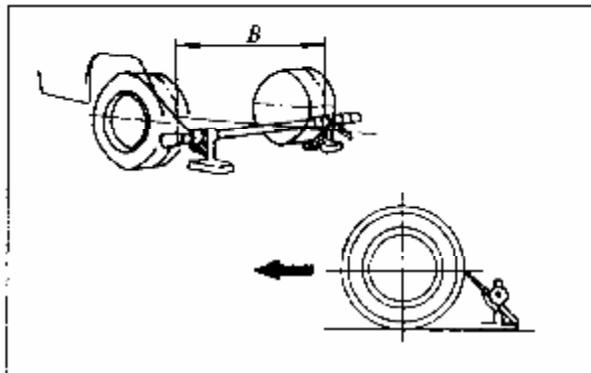

Figure 10-5-8 Check Toe-in (1)
3. Turn ends of left and right steering tie-rods to adjust the toe-in as shown in Figure 10-5-8. The left and right turning extent should be equal. **Note:** Measure lengths of left and right steering tie-rods ends. Make sure they are equal. The length difference between ends of the two steering tie-rods should be 3.0mm or less.